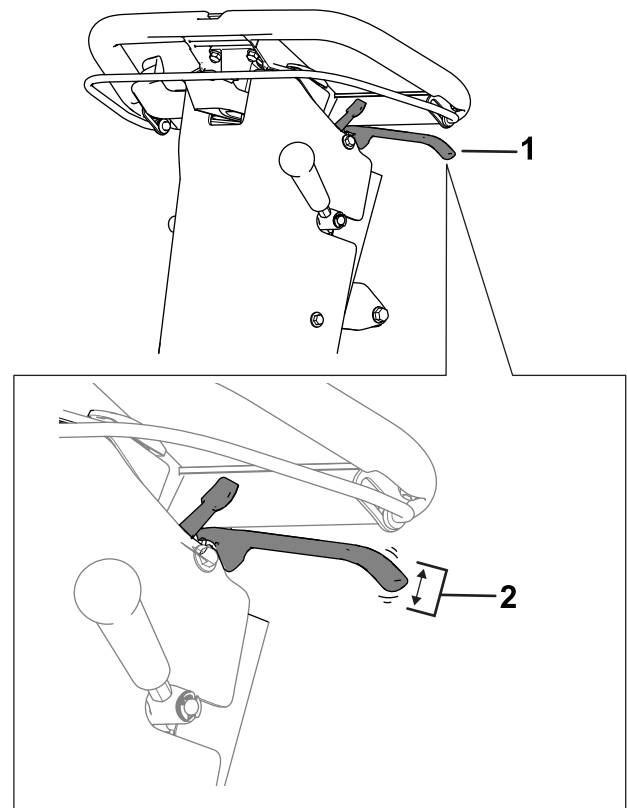

Figure 34
2. Measure the free play at the end of the parking-brake handle (Figure 34).